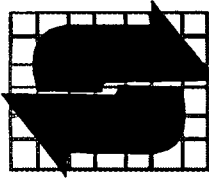

**FIG. 2**
3. Some modification to the roller mount bracket may be required for the roller mount to fit properly. If the existing container cross members are wider than 6", a fabricated support member of 1/2" plate or thicker will need to be added (See Fig. 2).